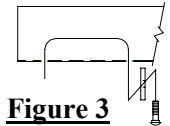

Figure 3
- Fishwire spacer and 7/16" carriage bolt thru access hole modified in Step 4 and down thru center hole in each frame rail (see figure 3). Insert remaining blocks and 1/2" carriage bolts into access holes and drop back down thru holes, making sure blocks span both sides of hole (see Figure 4).